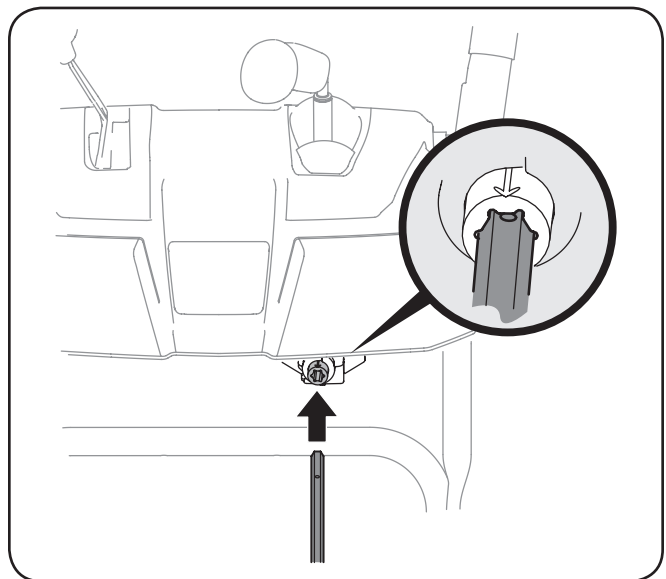

Figure 3-11
- Insert the chute control rod into the pinion gear below the joystick. Make sure to line up the hole in the rod with the arrow on the pinion gear. See Figure 3-11.